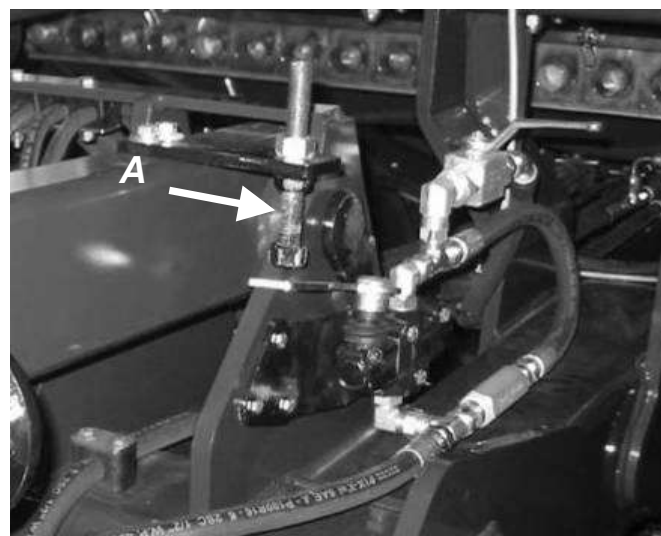

Figure 18
1. To adjust the height of the equipment at the back of the applicator you need to rotate the stopper located on the upper right arm of the lift. [figure 18, A].